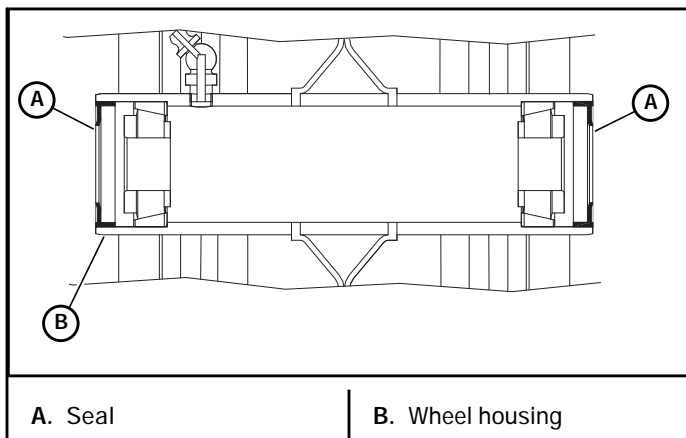

Figure 6-32
3. Insert the new tapered roller bearings into the outer bearing race. Figure 6-32
4. Insert the new seals into the wheel housing. Make sure that the flat side of the seal is flush with the outside edge of the wheel housing. Figure 6-32